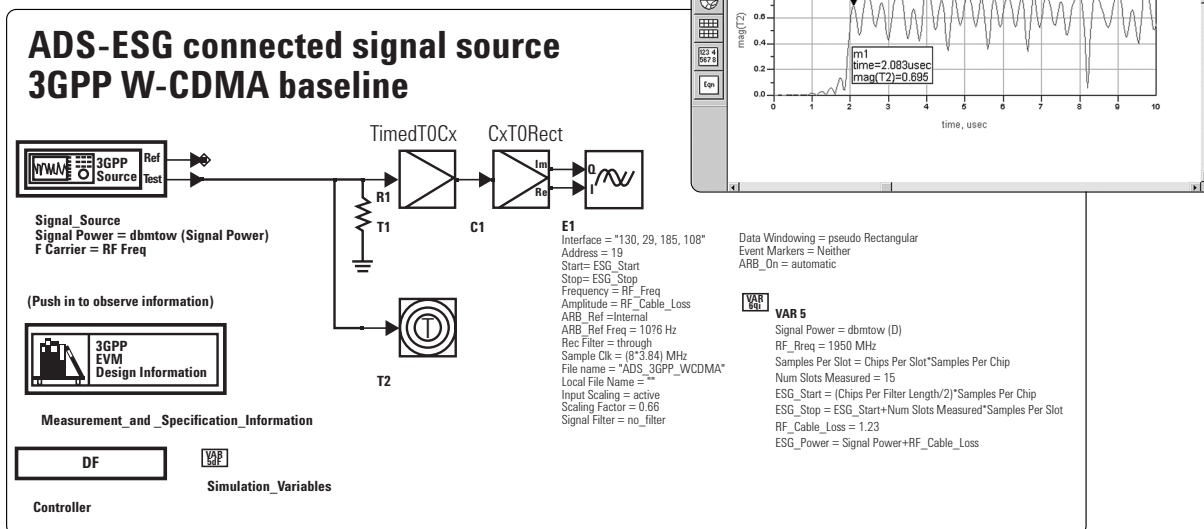
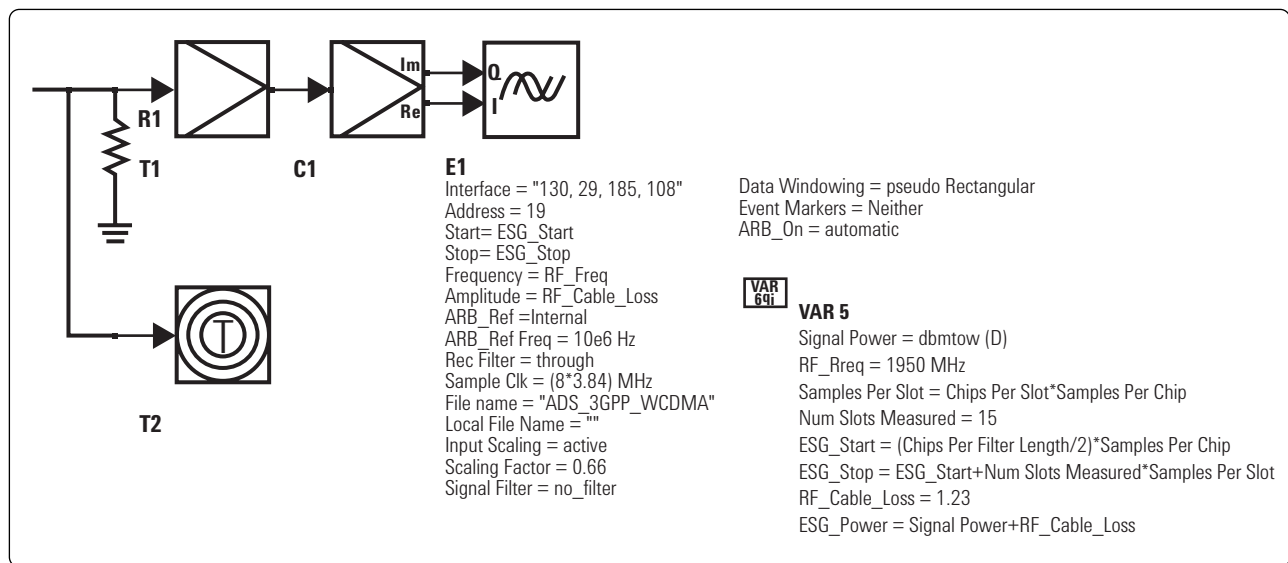

Figure 7. 3GPP W-CDMA Baseline Test Case. Plot of Data Being Input into the ESG (with delay shown) on right.
Figure 8. Close-Up view of ADS-ESG Sink setup.
Step 1. The schematic in figure 7 was created by copying and modifying the WCDMA3G_PA_Test_prj project, which is included with the ADS 3GPP W-CDMA design library (E8875A/AN). The baseline schematic design is shown and consists of an ADS 3GPP W-CDMA uplink source connected to the ADS-ESG sink element.
Step 2. Figure 8 shows a close-up view of the ADS-ESG sink setup and the VAR equations used to calculate some of the parameters. As discussed earlier, the “Start” parameter defines when the ESG sink should start collecting data to download into the ESG signal generator’s arbitrary waveform generator. Equations are used to define the parameters for the ESG sink such that it begins collecting data once valid data is available (accounting for the delay observed in figure7), and then collects 15 timeslots of data before downloading the ADS waveform into the ESG’s arbitrary waveform generator.
Note: The ESG sink element defines the “Start” and “Stop” parameters in terms of samples, and not time. The equivalent time can be calculated by multiplying the 64 samples by the timestep, which is the timestamp associated with each sample. Doing so produces an equivalent start time of $64*.032552083 \mu\text{s} = 2.083 \mu\text{s}$, which agrees with the time delay observed in figure 7. The ESG_Start parameter is thus set so that it only starts collecting data when valid data is available at its inputs.